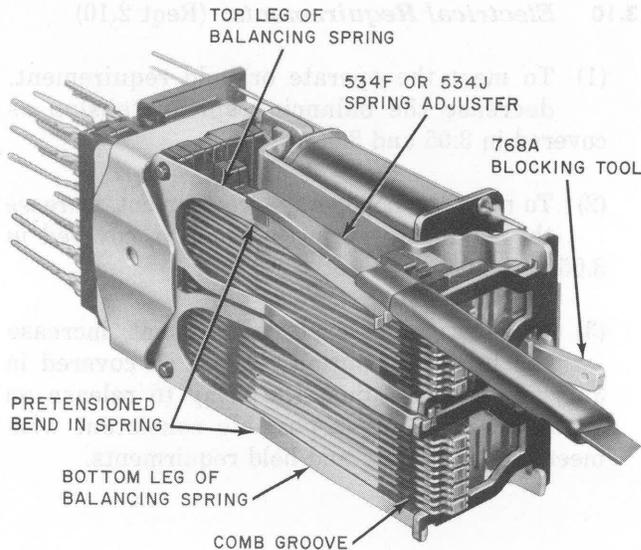

Fig. 7—Method of Adjusting Balancing Spring Tension
- (4) Place the slotted portion of the 534F or 534J spring adjuster on the leg of the balancing spring just in back of the two projections at the outer end of the leg. Slide the adjuster back until the end of the insulation on the handle is in line with the end of the spring. This will bring the slotted portion of the adjuster close to the pretensioned bend in the spring as shown in Fig. 7. With the adjuster in this position, bend the spring to the left to increase the tension while maintaining a pressure on the adjuster toward the right. This pressure on the adjuster is necessary in order to avoid distorting the portion of the balancing spring leg to the rear of the pretensioned bend. If necessary to decrease the tension to meet the electrical requirements, bend the spring to the right while maintaining a pressure on the adjuster toward the left. Take care when adjusting the legs of the spring to adjust them in line with their movement and to avoid tilting. Do not adjust more than necessary since repeated adjustment may injure the spring.